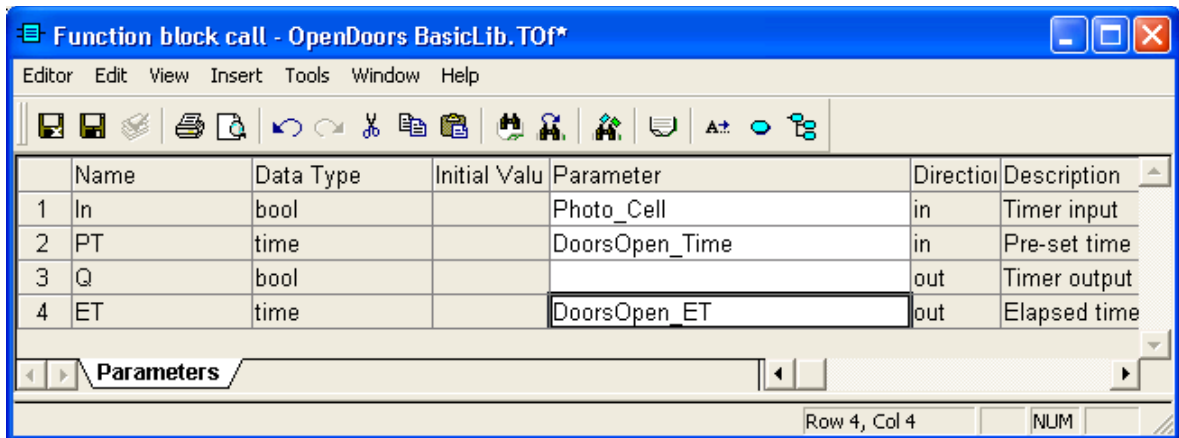

Figure 30. Connecting function block parameters
8. Fill in the other two variables in the parameter list according to Figure 30.